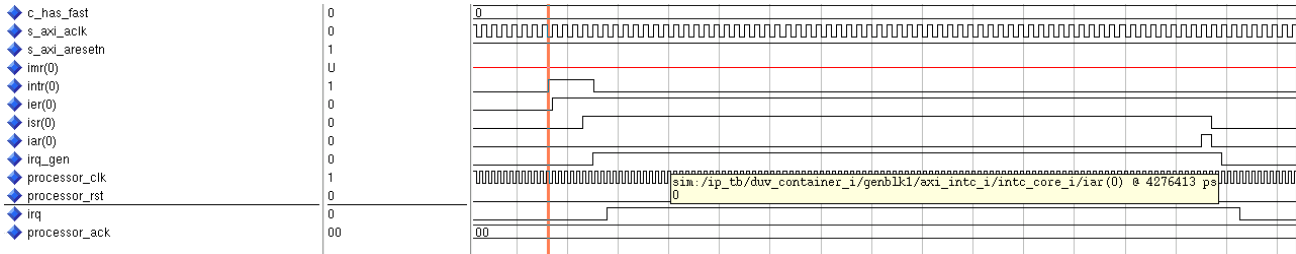

Figure 3-3: Input Intr - Edge Sensitive (Rising), Output Irq - Level Sensitive (High), C_HAS_FAST = 0
- Configured Input Interrupt (Intr) for Edge sensitive (rising), Output Interrupt Request (Irq) to Level sensitive (active-High), disabled fast interrupt logic (`C_HAS_FAST = 0`). Timing diagram is shown in Figure 3-3.